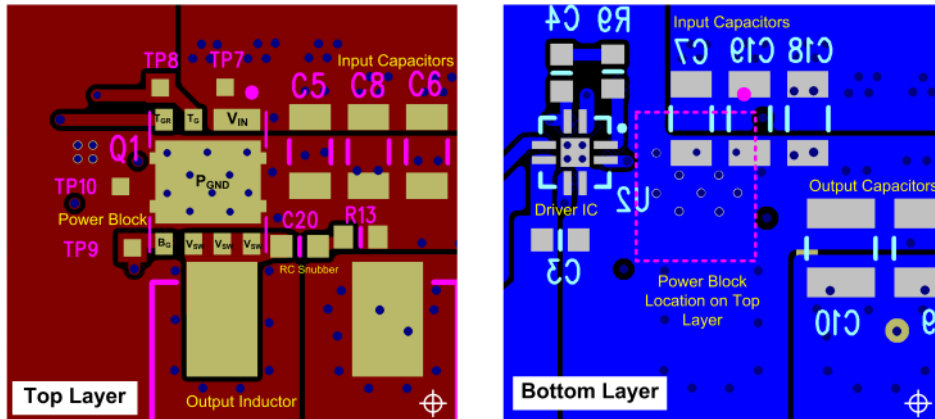

Figure 34. Recommended PCB Layout (Top Down View)
- The placement of the input capacitors relative to the power block's VIN and PGND pins should have the highest priority during the component placement routine. It is critical to minimize these node lengths. As such, ceramic input capacitors need to be placed as close as possible to the VIN and PGND pins (see Figure 34). The example in Figure 34 uses 6 × 10-μF ceramic capacitors (TDK C3216X5R1C106KT or equivalent). Notice there are ceramic capacitors on both sides of the board with an appropriate amount of vias interconnecting both layers. In terms of priority of placement next to the power block, C5, C7, C19, and C8 should follow in order.
- The switching node of the output inductor should be placed relatively close to the power block VSW pins. Minimizing the node length between these two components will reduce the PCB conduction losses and actually reduce the switching noise level. In the event the switch node waveform exhibits ringing that reaches undesirable levels, the use of a boost resistor or RC snubber can be an effective way to reduce the peak ring level. The recommended boost resistor value will range between 1 Ω to 4.7 Ω depending on the output characteristics of driver IC used in conjunction with the power block. The RC snubber values can range from 0.5 Ω to 2.2 Ω for the R and 330 pF to 2200 pF for the C. Refer to Snubber Circuits: Theory, Design and Application (SLUP100) for more details on how to properly tune the RC snubber values. The RC snubber should be placed as close as possible to the Vsw node and PGND see Figure 34 (1)
- Use the smallest drill size allowed in your design. The example in Figure 34 uses vias with a 10-mil drill hole and a 16-mil capture pad.